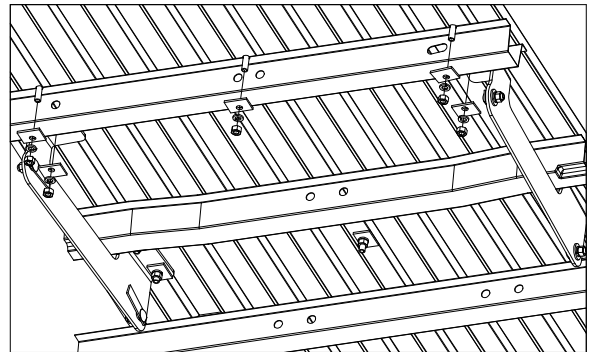

Figure E4: View under bed looking toward rear of truck. (Frame not shown.)
4. **Install hardware on forward mounting rail.** Under the bed install an offset square washer, 1/2" lock washer, and 1/2" finish nut on each of the carriage bolts, see Figure E4. Place the U-shaped spacers. Hand tighten each nut.